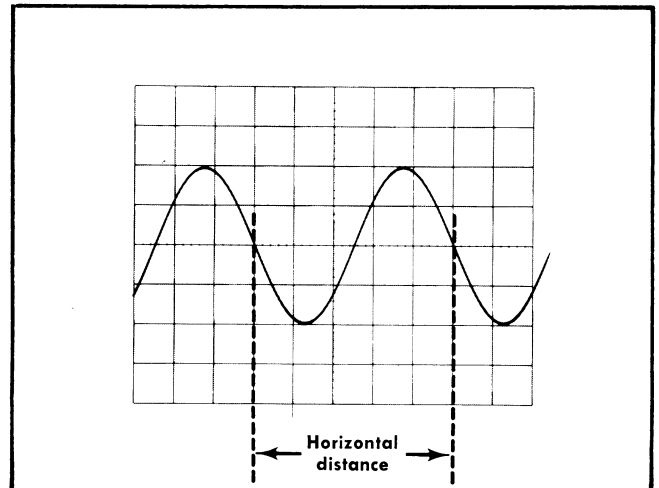

Fig. 1-3. Measuring time duration (period) between points on a waveform.
2. Set the time-base triggering controls to obtain a stable display. Set the Sec/Div switch to the fastest sweep rate that will permit displaying one cycle of the waveform in less than eight divisions (some nonlinearity may occur in the first and last graticule divisions of display). Refer to Fig. 1-3.
EXAMPLE: The frequency of the signal shown in Fig. 1-3, which has a period of 0.5 millisecond, is: